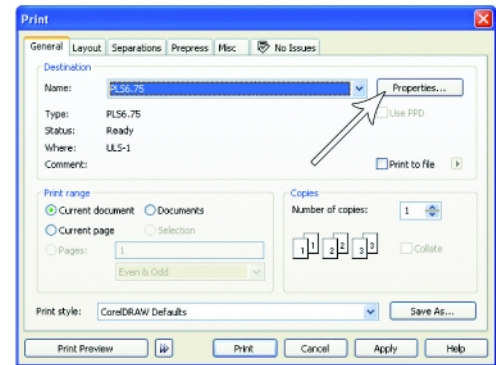
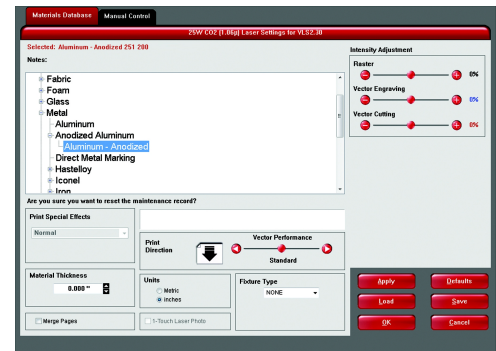

Figure 4
Figure 5
2. When you are ready to print the job, select PRINT from the CorelDRAW FILE menu. Make sure that your laser system printer driver appears in the DESTINATION NAME dropdown list, and then click PROPERTIES (Figure 4) to display your laser system printer driver settings (Figure 5).
3. Choose your material category (metal, in this case) and then select the desired material: Aluminum Anodized (Figure 5).
7. Now Select PRINT in the Print dialog window (Figure 4).